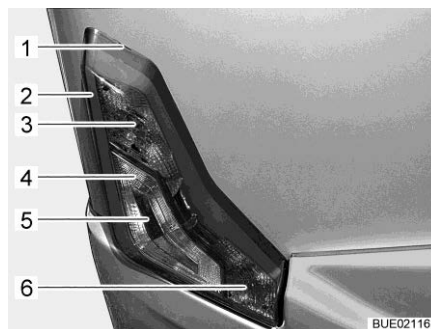

Fig. 290 Rear lights
- Insert flat tool into notch (Fig. 290,1) and carefully lever off the housing.